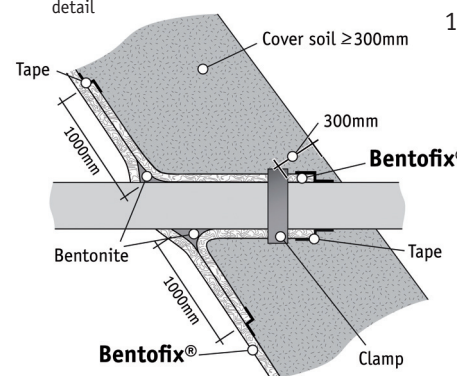

Fig. 22
18.3 Typical Bentofix® attachment to vertical and horizontal pipe penetrations is shown in figure 22.